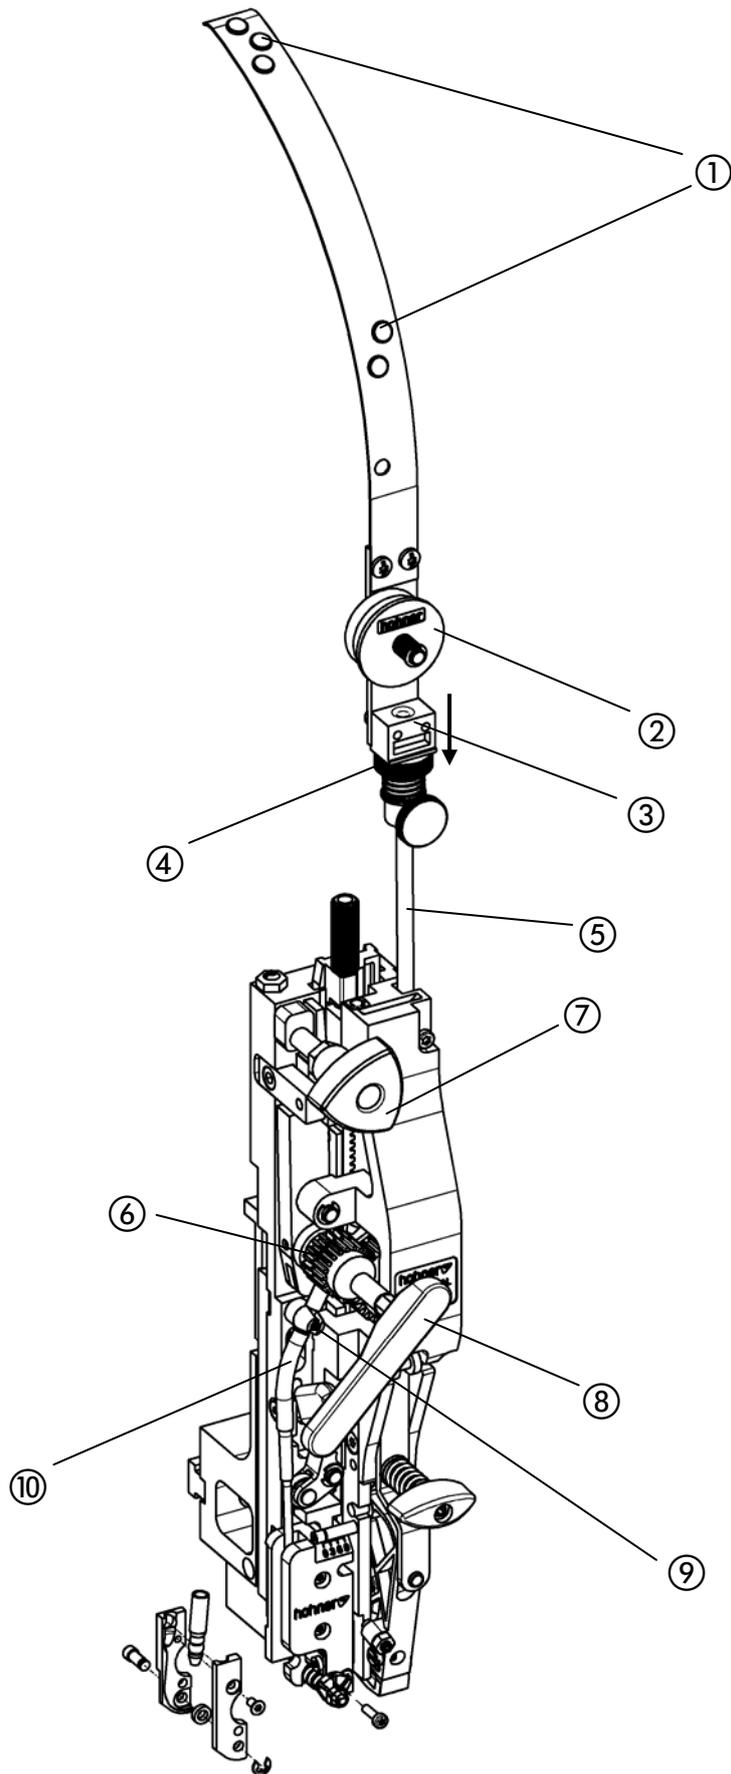

Fig. 9
- Fig. 9 -
- Shut off the wire transport (move triangular handle ⑦ in the "centre position").